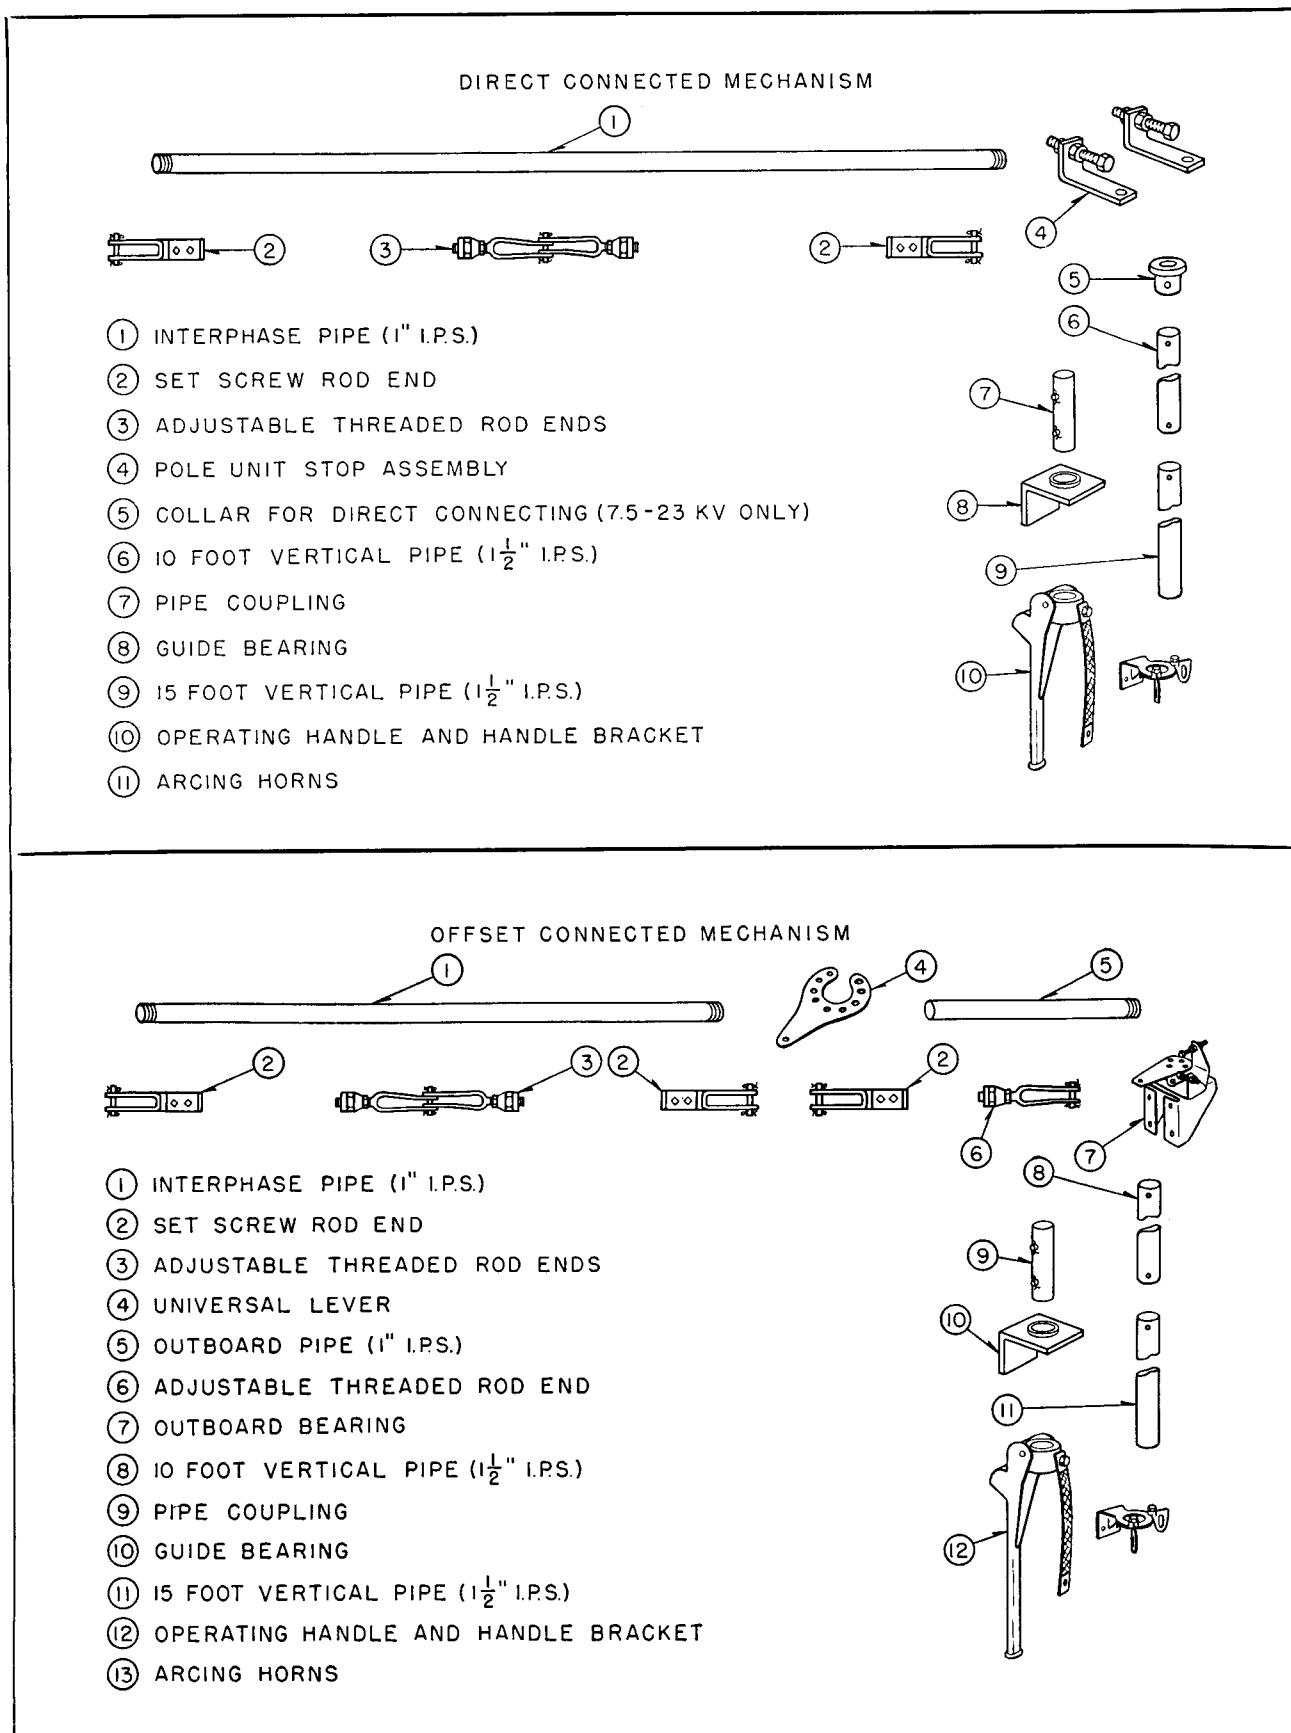
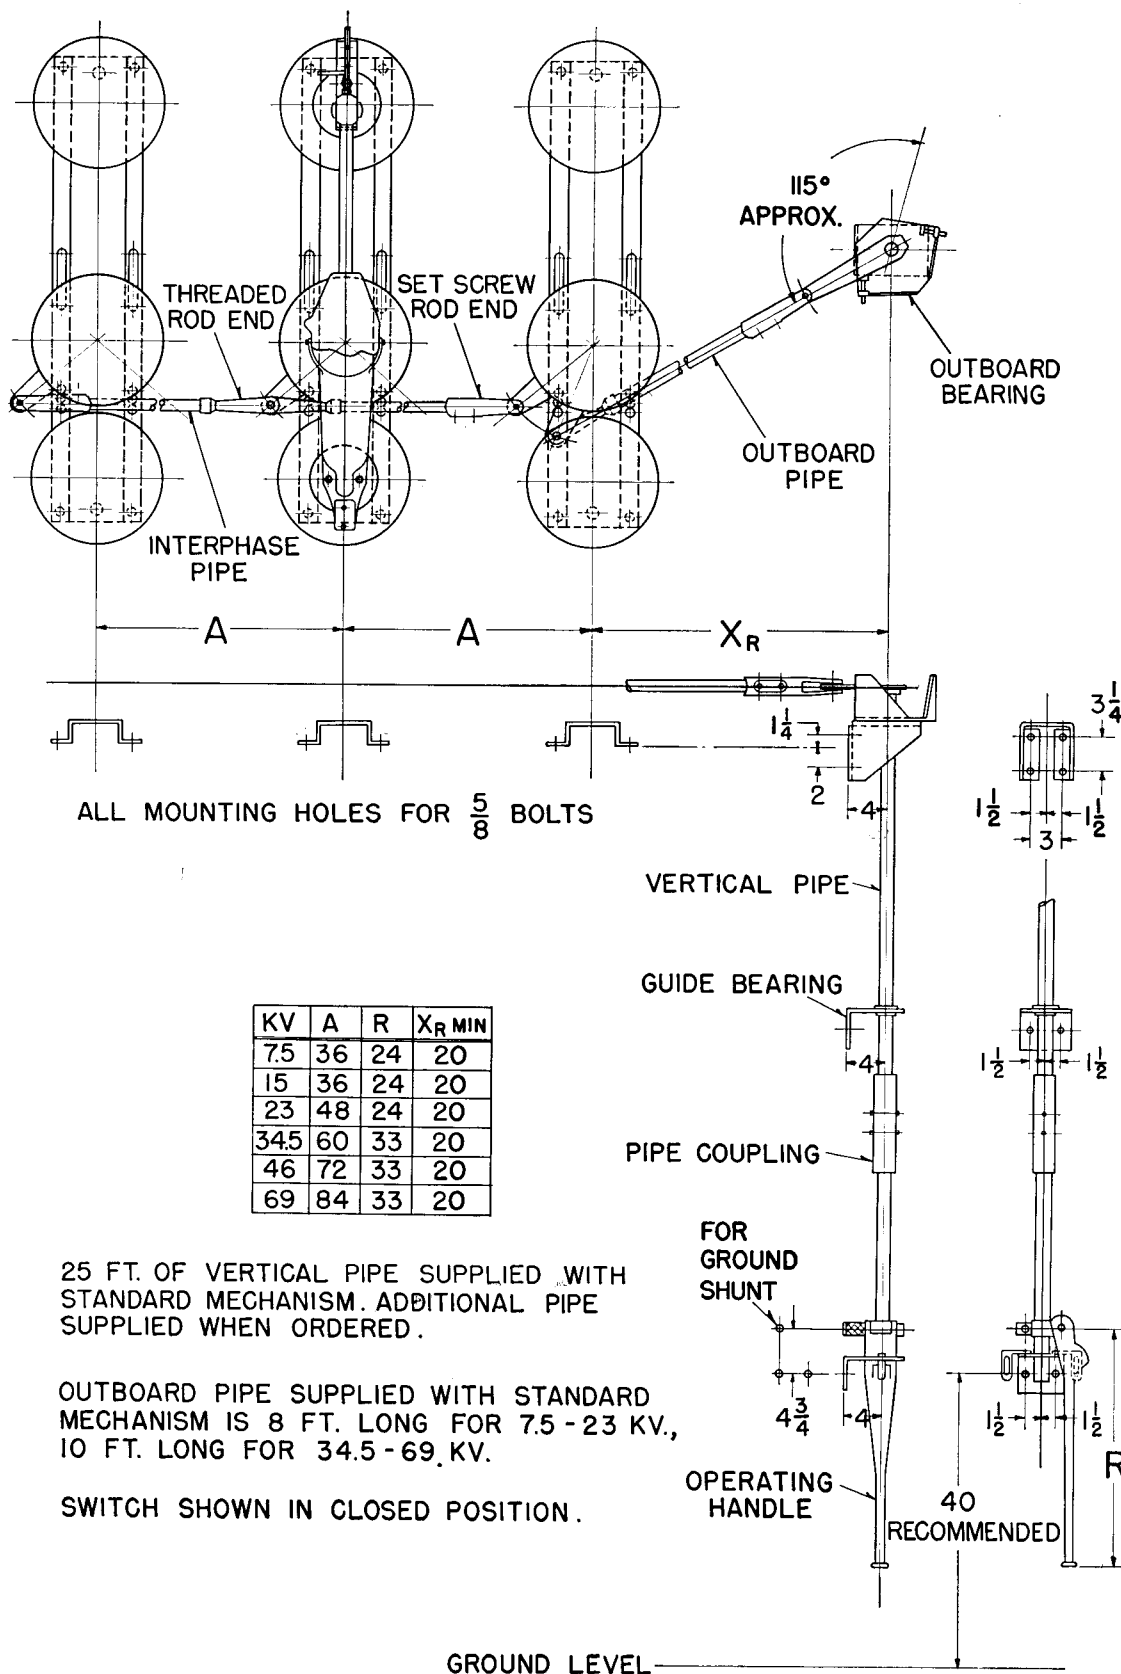

FIG. 2. Operating Mechanism Components
FIG. 10. Typical Outline for Type V Switch with Offset Connected Mechanism
Interphase Pipe. In the mechanism components supplied there is a length of 1" I.P.S. pipe with tapered threads on both ends. (See ① of Fig. 2). This pipe is for interphase connection and is of sufficient length so that when it is cut, each piece and its associated rod ends can provide more than NEMA standard phase spacing. A piece should be cut from each end of this pipe providing two interphase pipes each having threads on one end. The exact length of each piece should be $12\frac{1}{2}$ " less than the desired phase spacing.
Universal Lever and Outboard Pipe. The offset mechanism is provided with an outboard bearing, outboard pipe, universal lever, and rod ends for attachment to the outboard pipe (See Fig. 2, Offset Connected). The 3-pole outline (Fig. 10) shows a typical arrangement for these items with additional possibilities shown in the schematic views on page 5.
The outboard bearing should mount relative to the switch base mounting surface as shown in 3-pole outline Fig. 10 so that the operating levers are in the same plane. The stop bracket on the outboard mounting bracket is adjustable through 360° . Stop bolts provide fine adjustment for limiting the travel of the outboard bearing lever. These bolts should be backed out of the way until after the pole units and interphase pipes are set up.